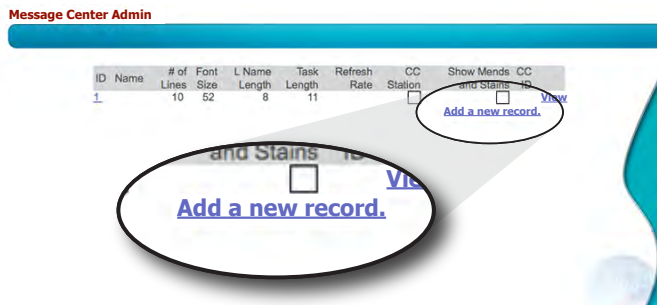

Figure 66. Message Center Admin: Add a new Record.
2. Click **Add a new record** (see Figure 66).